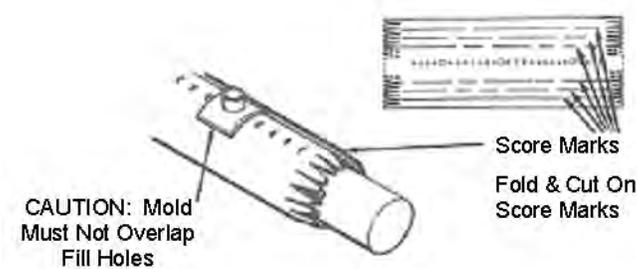

Figure 6
3. On small cables, holes, reduce mold width by folding, then cutting on appropriate score marks. (Figure 6)